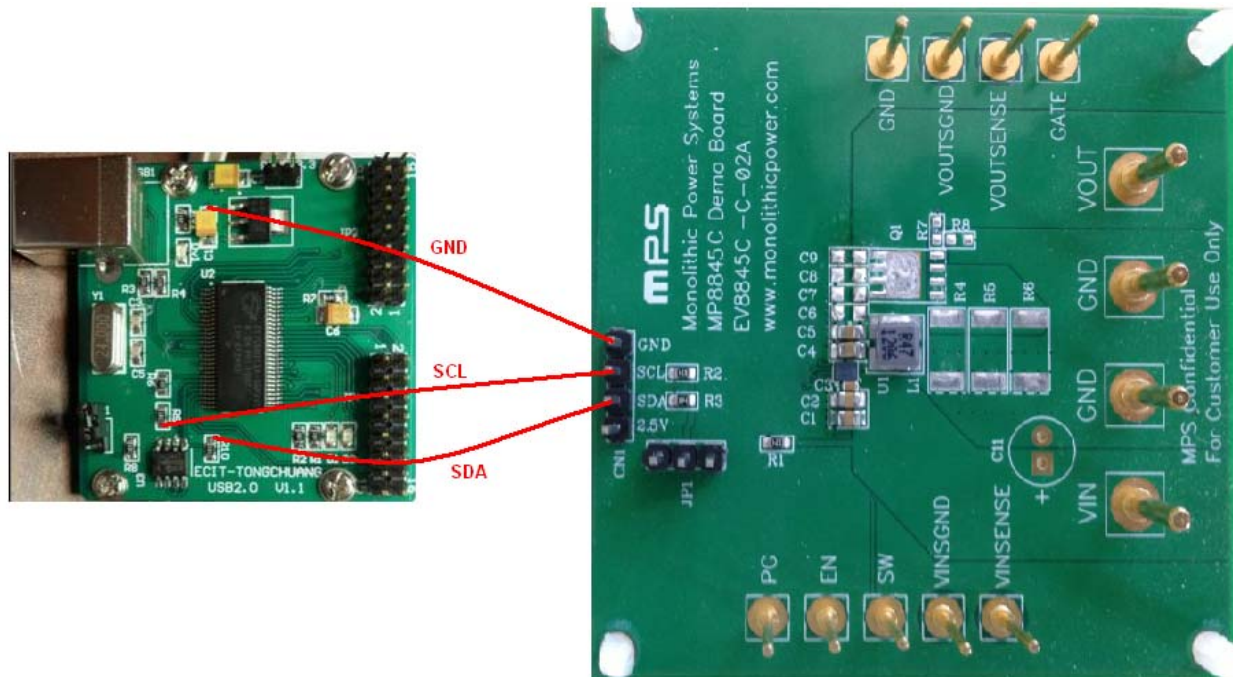

Figure 7—I2C interface board connecting method
2. Use three wires to get the SDA, SCL and GND signals from the I²C interface board, and then connect the board to EV8845C-C-02A by the three wires, figure 7 shows the connecting method.